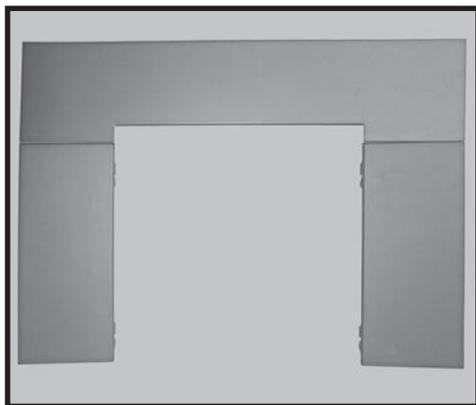

Fig. 3: Inner surround assembled.
3. Remove the smaller regular surround (Fig. 3) from the stove if not already removed, and lay it front side down on a flat soft surface. Be sure to first remove the Blower speed control knob and fixture.